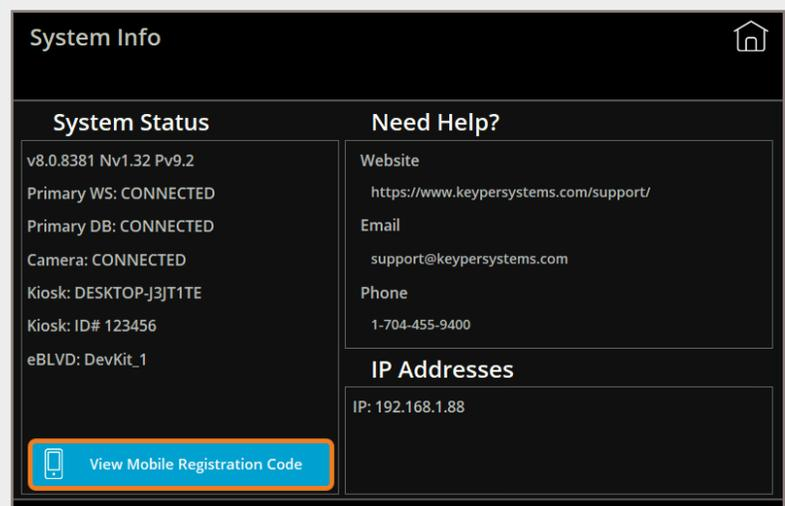

Fig. 17 – Kiosk application with mobile registration code indicated
- 🔑 In the kiosk application, the mobile registration code is located on the **System Info** screen, shown in Fig. 17. For information on navigating to this screen, see the Electronic System Manual.